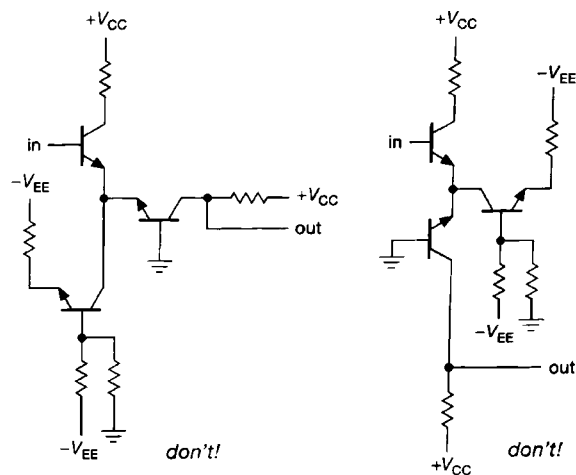

Figure B.1. Arrange components so that the function (here a differential amplifier) is clear. Don't corrupt the presentation to save space.
- A good schematic makes circuit functions clear. Therefore keep functional areas distinct; don't be afraid to leave blank areas on the page, and don't try to fill the page. There are conventional ways to draw functional subunits; for instance, don't draw a differential amplifier as in Figure B.1, because the function won't be easily recognized. Likewise, flip-flops are usually drawn with clock and inputs on the left, set and clear on top and bottom, and outputs on the right.